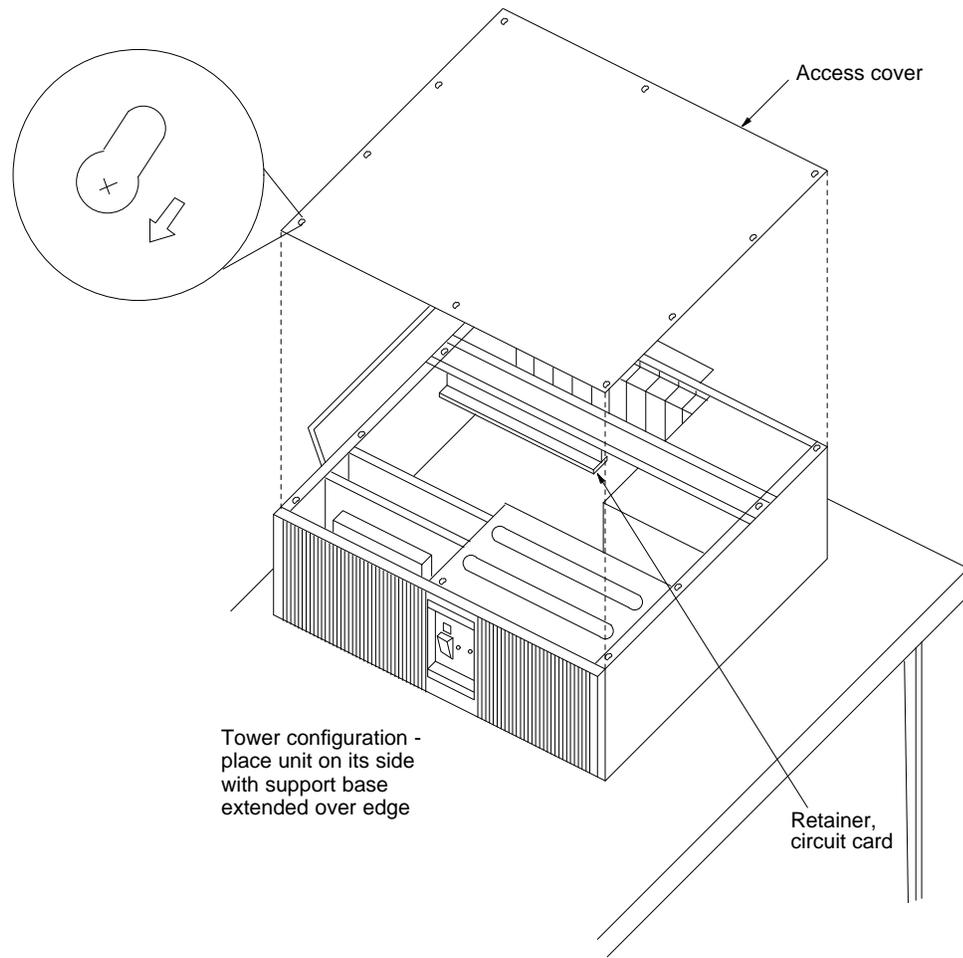

Figure 4-8. Removing the Access Panel
- b. If you do not have cables attached to the MAP/40 or 40s or currently have it sitting on a table, place the MAP/40 or 40s (tower configuration) on its side with the support base over the edge of the table (Figure 4-8).
3. Place the access panel on top of the MAP/40 or 40s. Align the access panel so that it slides over the eight screws on the MAP/40 or 40s (Figure 4-8).